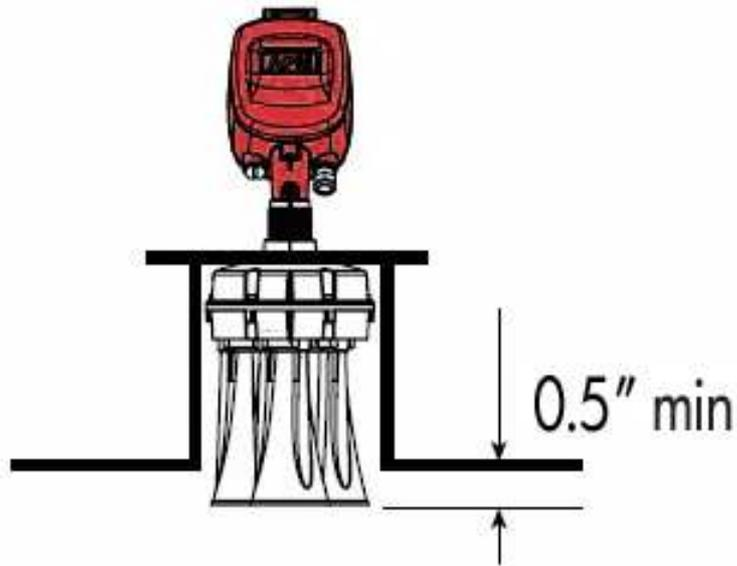
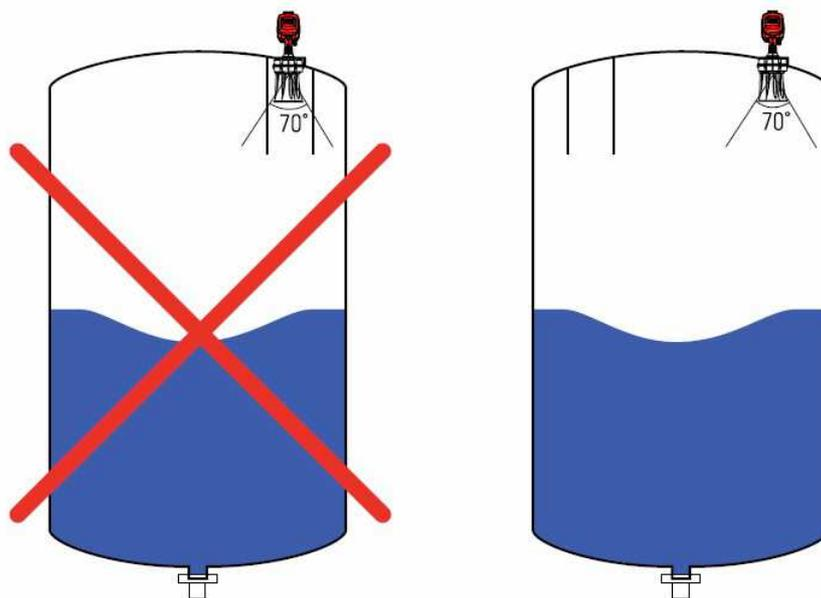

Figure 23 Antennas Location
Figure 24 Scanner Beam
- ① Ensure that the bottom of the scanner (antennas) protrudes at least 10 mm (0.4 inch) out of the socket, as shown in Figure 23. Ensure that no rails or frames interfere with the beam (opening angle) of the scanner, as shown in Figure 24. Interference can reduce the signal to noise ratio (SNR) and damage signals coming back to the scanner.